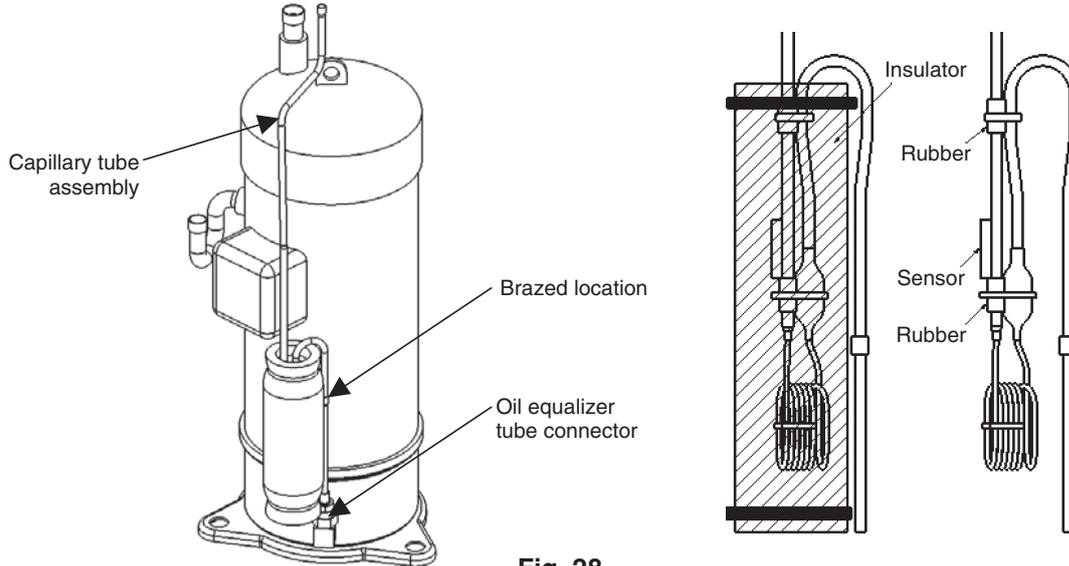

Fig. 28
- (1) Remove the capillary tube assembly from the removed compressor at the brazed location shown in the figure 28. At this time, remove the thermal insulation and sensor before disconnecting the tube.
- **Be sure to securely re-install the thermal insulation and clamps for the capillary tube assembly in their original conditions, as shown in Fig 28.**
- (15) Follow the instructions in “ 7. Evacuating System ” and apply vacuum to the outdoor unit where the compressor was replaced.